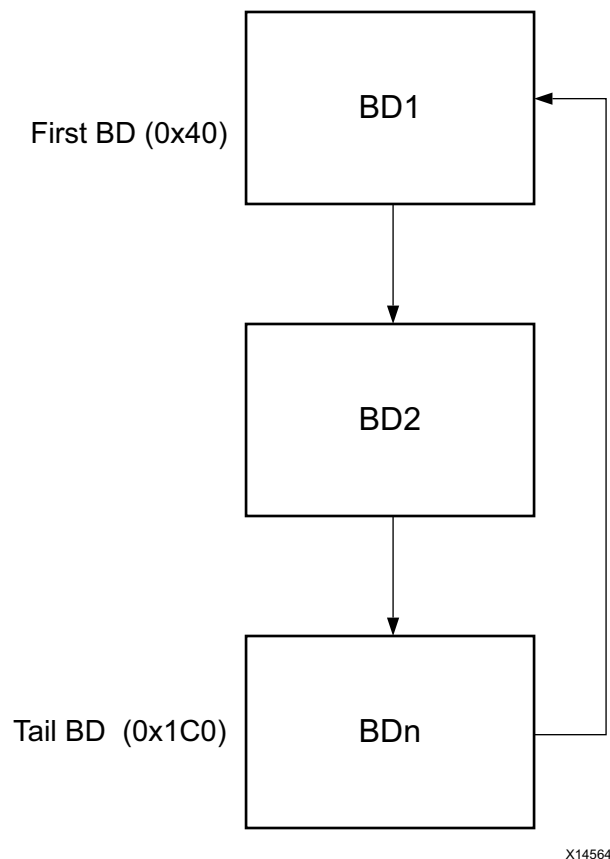

Figure 3-2: BD Chain
AXI DMA can be run in cyclic mode by making certain changes to the Buffer Descriptor (BD) chain setup. In cyclic mode, DMA fetches and processes the same BDs without interruption. The DMA continues to fetch and process until it is stopped or reset. To enable cyclic operation, the BD chain should be set up as shown in Figure 3-2.